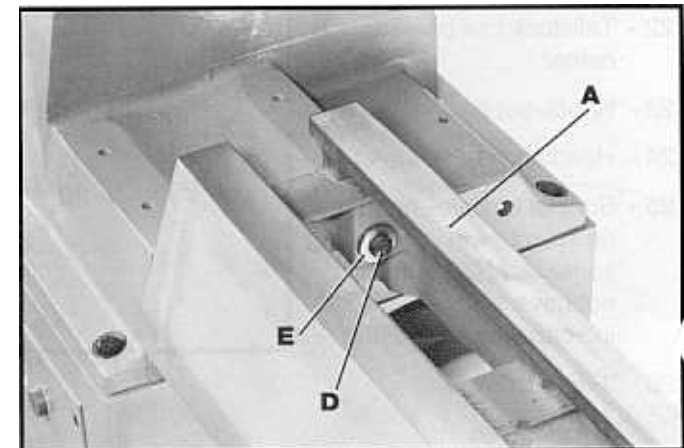

Fig. 8
4. Fasten bed section (A) Fig. 8, to headstock casting using the two 80mm long hex head screws (D) and washers (E), one of which is shown in Fig. 8.